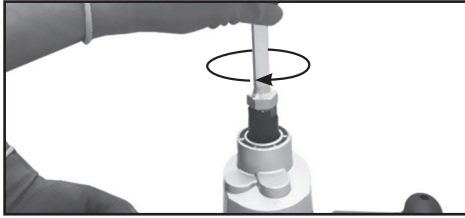
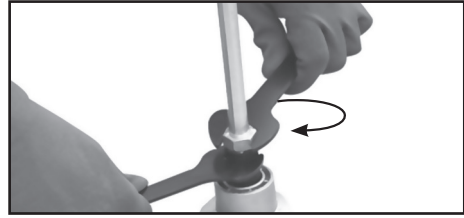

Fig. 2 - FIXING THE PADDLE TO THE SHAFT
Fig. 3 - LOCKING THE ROD ON THE SHAFT
2. Screw the other end of the beater into the equipment shaft, using 02 wrenches to tighten it correctly (Fig. 2 e Fig. 3).